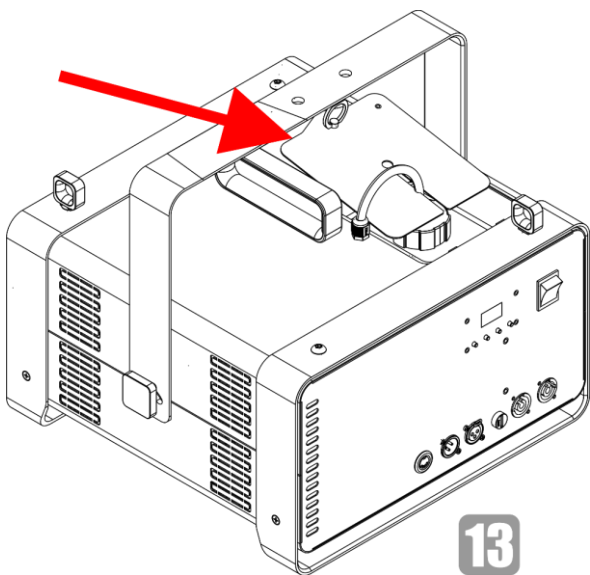

Fig. 31
- 13) Put the lid back on the device, as shown in Fig. 31.